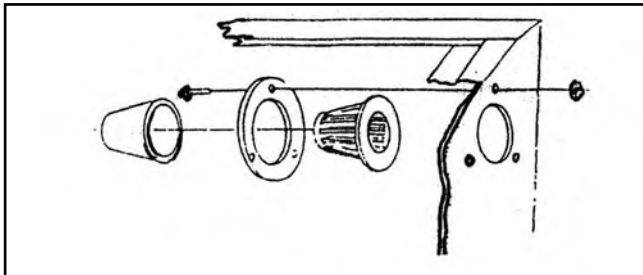

Figure 3. Filter installation.
3. Install the filter assembly with the screws and nuts (**Figure 3**).